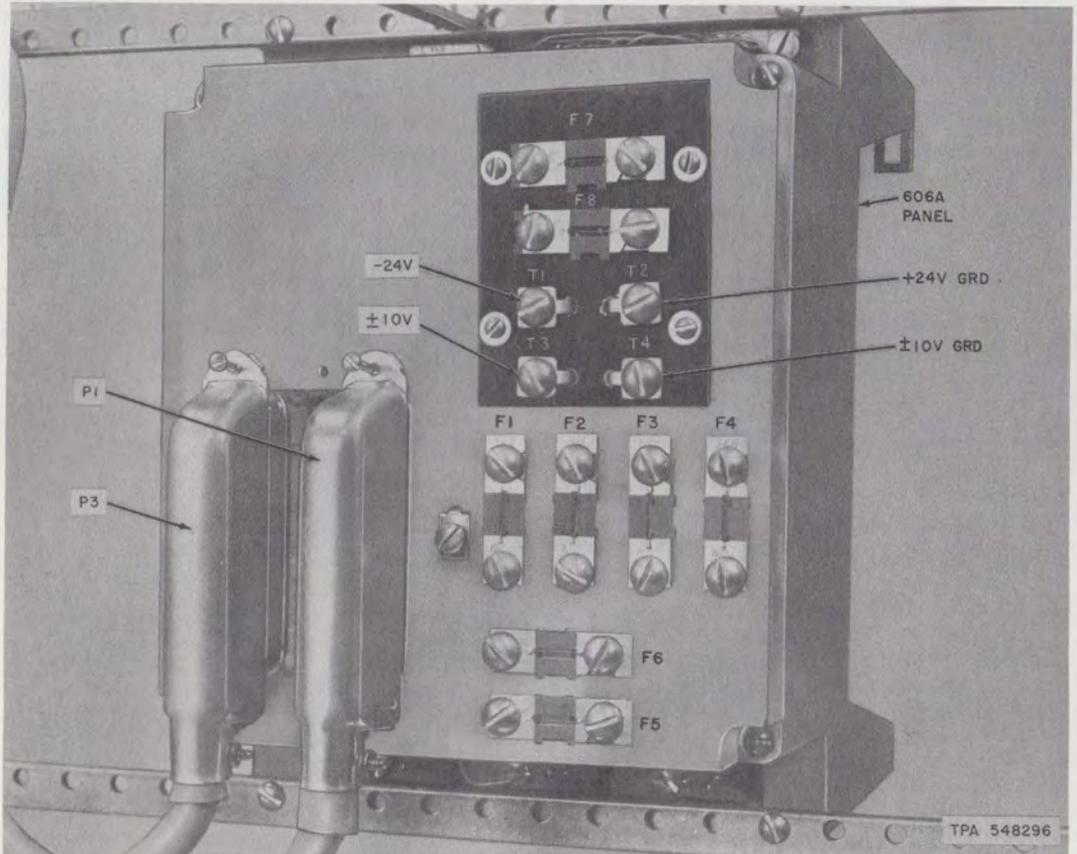

Fig. 5—606A Panel (Rear View)
1. POWER SUPPLY CONNECTS TO REAR OF 606A PANEL (SEE FIG 5).
3.16 Connect leads to the two 400D KTUs, KTS power supply, and key telephone station as shown in Fig. 5, 7, 9, and 10.